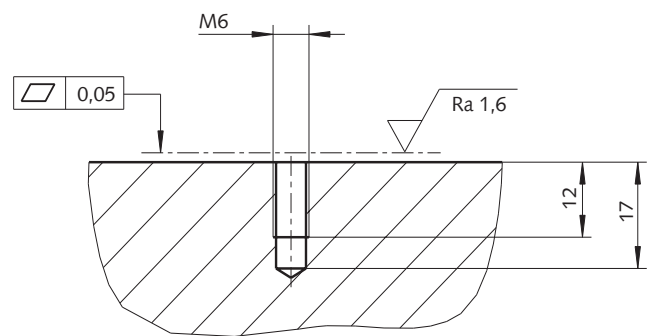

Fig. 3: Preparing the mounting surface
- Machine the surface at the measuring point (N7; Ra 1,6 microns) and tap the M6 female thread (see Fig. 3).